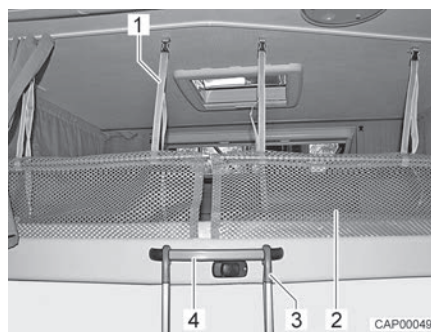

Fig. 63 Access ladder and safety net
- Hook the access ladder (Fig. 63,3) to the pull-down bed by attaching the two hooks to the curved handle (Fig. 63,4).
The safety nets (Fig. 63,2) with the retaining straps are stored under the mattress. Only use the safety nets if persons are already in the pull-down bed.
- Fasten the retaining straps (Fig. 63,1) to the holders on the ceiling.